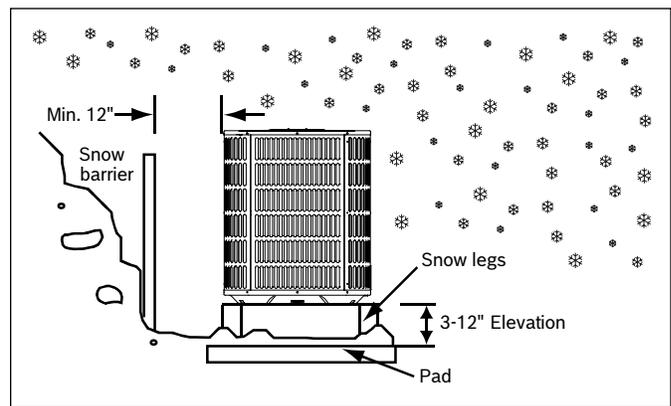

Figure 7
- Units should be elevated 3-12 inches above the pad or rooftop, depending on local weather. This additional height will allow drainage of snow and ice melted during defrost cycle prior to its refreezing. Ensure that drain holes in unit base pan are not obstructed, which could prevent the drainage of defrost water (Figure 7).